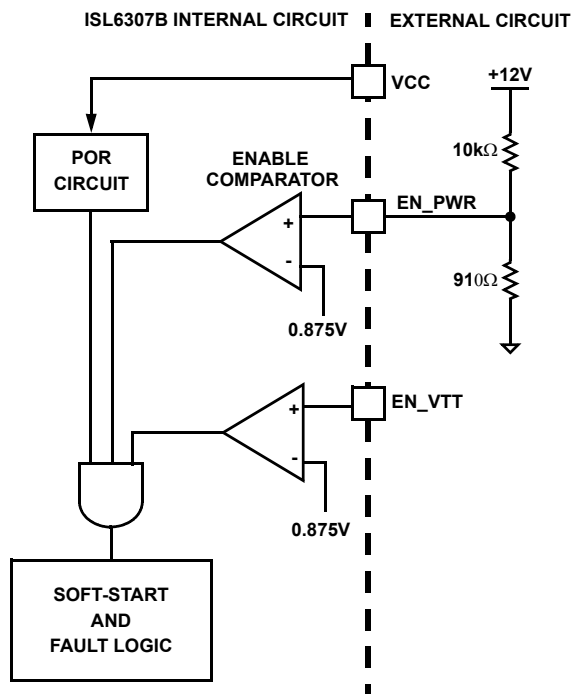

FIGURE 10. POWER SEQUENCING USING THRESHOLD-SENSITIVE ENABLE (EN) FUNCTION
2. The ISL6307B features an enable input (EN_PWR) for power sequencing between the controller bias voltage and another voltage rail. The enable comparator holds the ISL6307B in shutdown until the voltage at EN_PWR rises above 0.875V. The enable comparator has about 130mV of hysteresis to prevent bounce. It is important that the driver ICs reach their POR level before the ISL6307B becomes enabled. The schematic in Figure 10 demonstrates sequencing the ISL6307B with the ISL66xx family of Intersil MOSFET drivers, which require 12V bias.